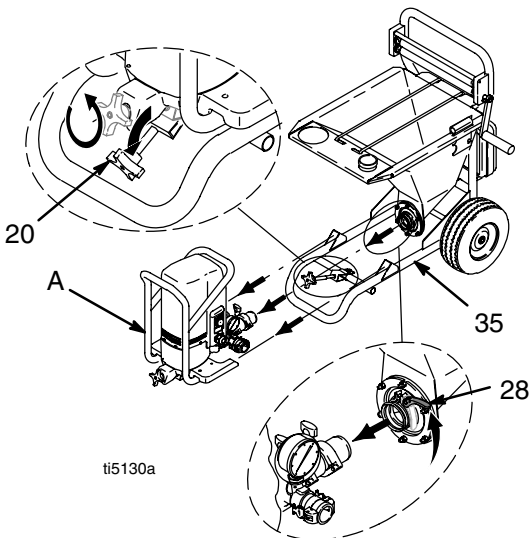

Fig. 5
6. Fig. 5. Remove screws (41) and discard brushes (B) for motor with capacitor attached.
2. Fig. 5. Remove pump module (A).
- a. Loosen clamp rod (20).
- b. Release hopper quick-release clamp (28).
- c. Disconnect pump module (A) from frame (35).